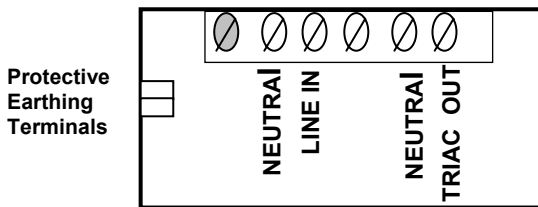

Figure 4
6. Connect each wire to the appropriate locations noted in the table below and secure the wires in the terminal block and protective earthing terminal by turning each screw clockwise. (Refer to the MX001 box or to Figure 4 for the order of the terminals for the power wires.)